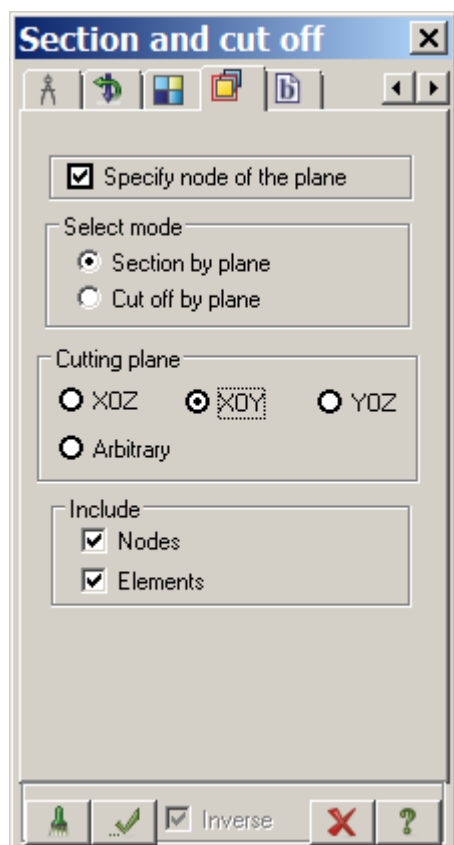

Figure 4.8 **PolyFilter** dialog box (Section and cut off)
- ⇒ In the **PolyFilter** dialog box, select the **Section and cut off** tab (the last but one tab) (see Fig.4.8).